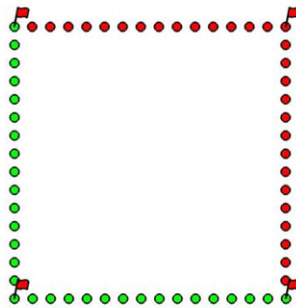

Figure 7-10: Marking ending positions
Step 4 – Mark the End Positions – if you are doing a forward only grid, it is recommended to mark the end positions (Figure 7-10). You will need to aim for something to make sure your line is straight.